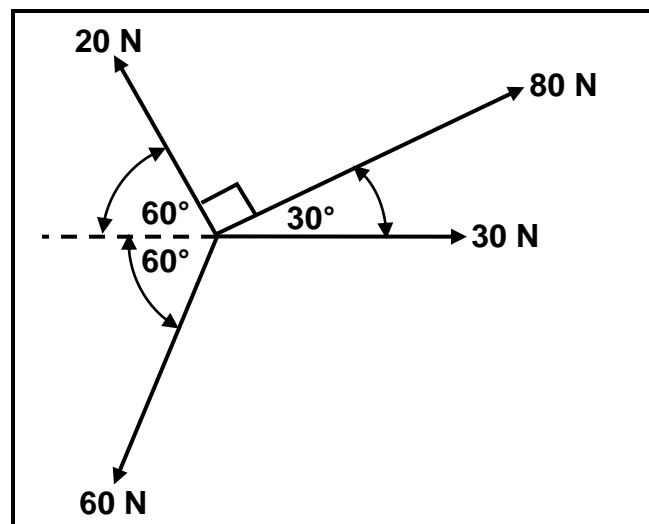

FIGURE 8.1
8.1 FIGURE 8.1 below shows a system of forces with four coplanar forces acting onto the same point. Use calculations and determine the magnitude and direction of the equilibrant of this system of forces.
HINT: Draw and complete the diagram in FIGURE 8.1 in your ANSWER BOOK. Show ALL the horizontal and vertical components before you do the calculations.